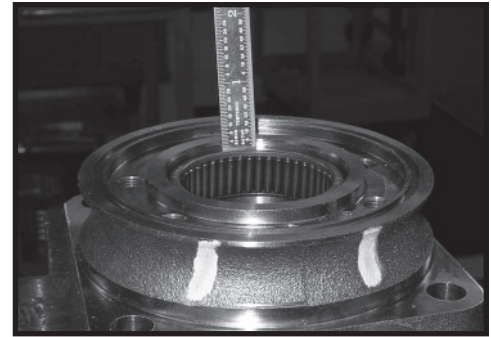

Figure 35
CAUTION **CAUTION:** If the bearing mandrel specified in the “Tools and Materials Required for Servicing” section is not available and alternate methods are used to press in bearing/bushing (13) and (19) the bearing/bushing depths specified must be achieved to insure adequate bearing support and correct relationship to adjacent components when assembled. SEE FIGURE 35.